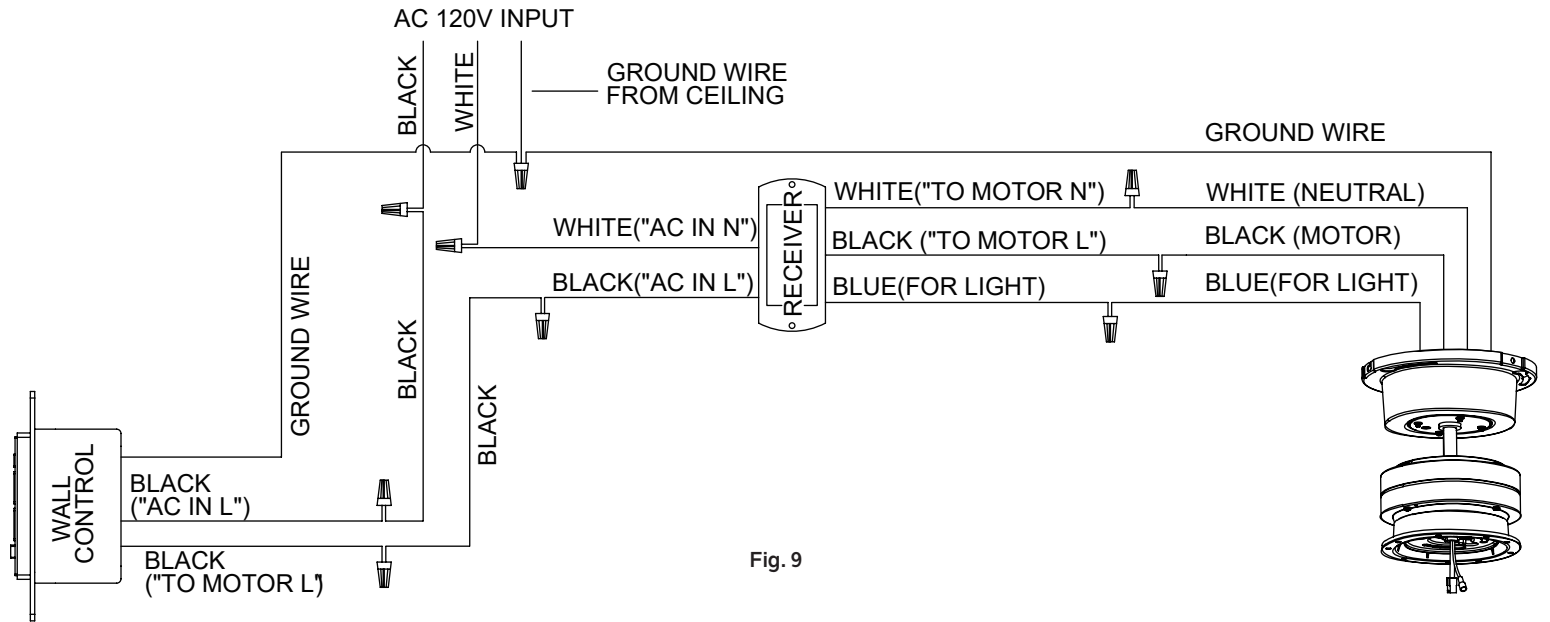

Fig. 9
**Step 5.** Secure all wires connections with the plastic wire connectors provided. (Fig. 9)